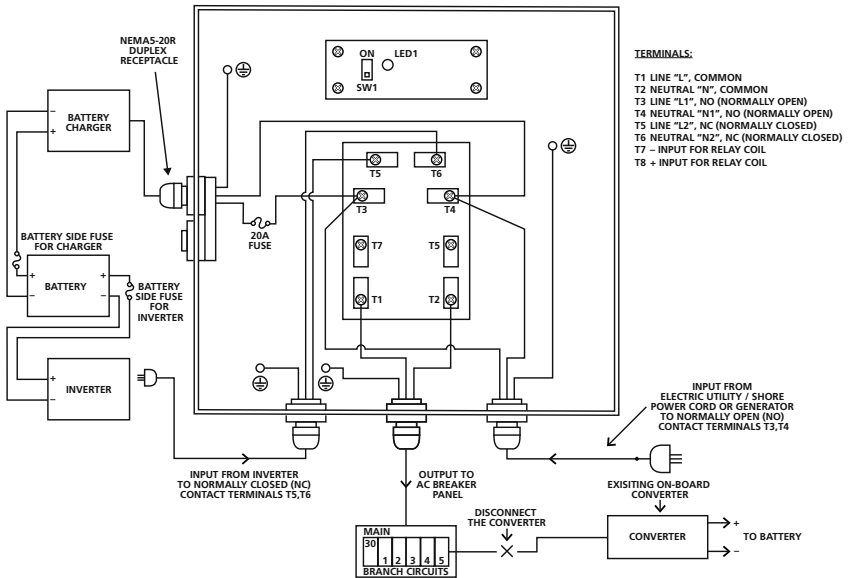

Fig. 4. 30 A System for alternate source / inverter.
- a. Feed the 3 core cable from the electric utility / shore power cord / the generator through the $\frac{3}{4}$ " cable clamp that has been provided (4, Fig1). Connect the three cores as follows (Fig 4):
- b. Feed the 3 core cable for output to the main breaker panel by using a convenient knockout / cable clamp ($\frac{3}{4}$ " or 1") for the cable entry. Cable clamp has not been provided for this connection and has to be provided by the user. Connect the 3 cores as follows (Fig 4):
- c. Plug the NEMA5-15 plug (2, Fig 1) of the inverter power cord (1, Fig 1) to the output of the inverter (Fig 4). **Please ensure that the inverter is switched off and the battery input connection to the inverter is disconnected.**
- d. Plug the external battery charger to one of the receptacles of the NEMA-20R Duplex receptacle (3, Fig 1; Fig 4). **Please ensure that the AC input current of the battery charger is less than 16A continuous as the receptacle is internally fused at 20A max. In case the current drawn by the external battery charger is > 16A continuous, the charger should be wired to a separate circuit connected to the NO contact terminals T3 and T4 through a fuse applicable to the input current of the charger.**
- e. **In case the Transfer Switch is being used in an RV application, the built-in converter of the RV should be disconnected from the AC Breaker Panel (Fig 4).** This is necessary because when the electric utility / shore power cord / the generator fails / is removed, the panel will be fed by the inverter and if the converter is not disconnected from the panel, it will result in a battery to inverter to converter to battery loop that will quickly drain the batteries. In case the external battery charger is not being used, the converter may be re-wired to the NEMA5-20R Duplex receptacle (3, Fig 1). As these receptacles are connected to the NO contact terminals T3 and T4, the converter will always be powered from the electric utility / shore power cord / the generator. **In case the current drawn by the converter is > 16A continuous, the converter should be wired to a separate circuit connected to the NO contact terminals T3 and T4 through a fuse applicable to the input current of the converter.**
TESTING OF THE OPERATION (FIG 4)